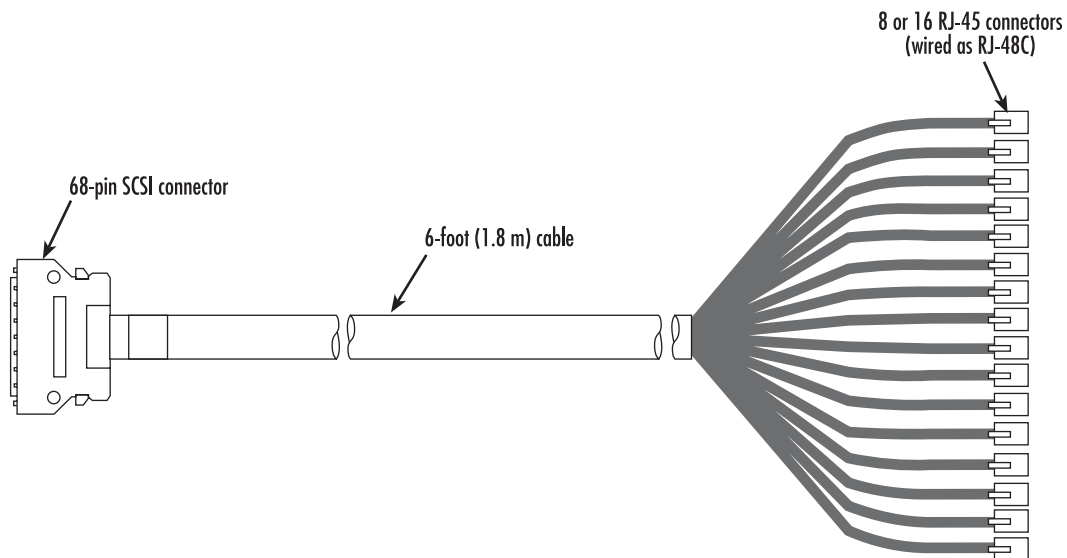
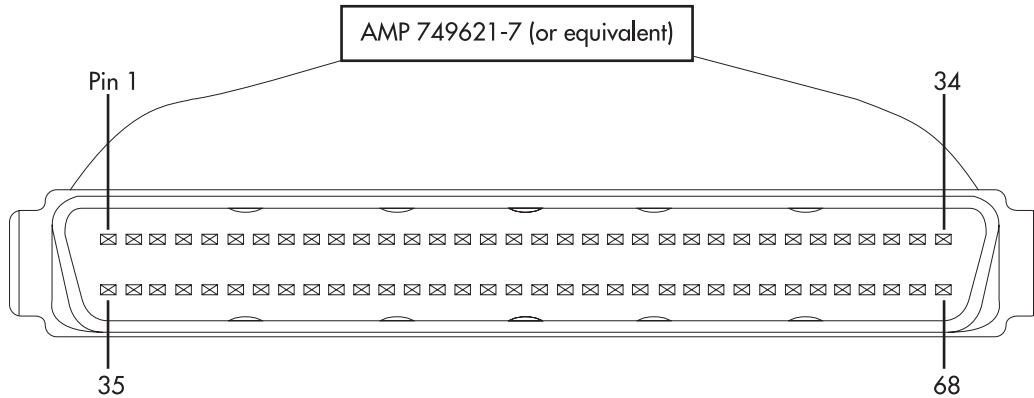

Figure 9. SCSI-to-RJ45 6-foot WAN cable
Figure 10. WAN cable's 68-pin SCSI connector
The SCSI-to-RJ-45 cable (see figure 9) connects to the 2616RC via a male SCSI connector (see figure 10). At the other end of the cable, T1/E1 lines terminate on 8 or 16 individual RJ-45 connectors (wired as RJ-48C) (see figure 9). Each RJ-45 terminated T1/E1 line connects directly to a local patch panel or to another T1/E1 device.
1. Connect the 68-pin SCSI connector (see figure 10) of the 6-foot WAN cable (see figure 9 on page 24) to the connector on the rear panel of the Model 2616RC.